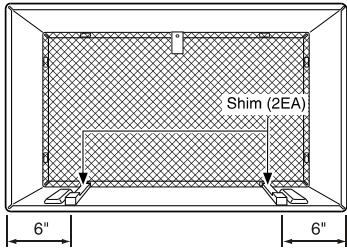

FIG. 21
- 7** To achieve rearward slope for unit draining, remove the backing from the $11\frac{3}{16}$ " shim strips and attach them as shown below in Fig. 21. The higher portion of shim is to be placed in front of the rib on the base of wall sleeve.